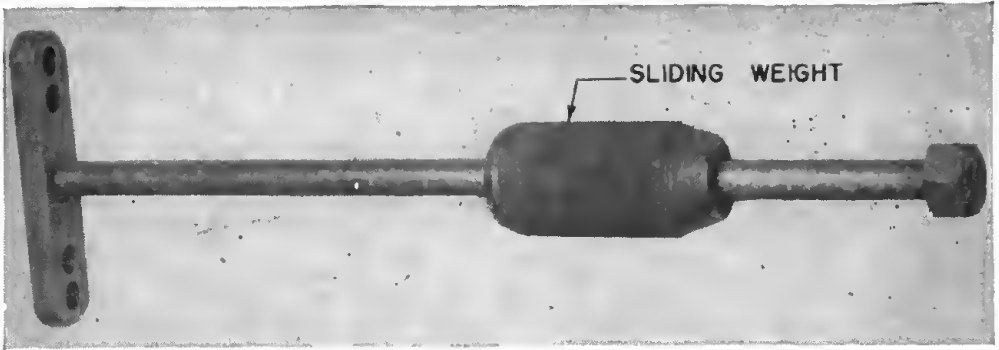
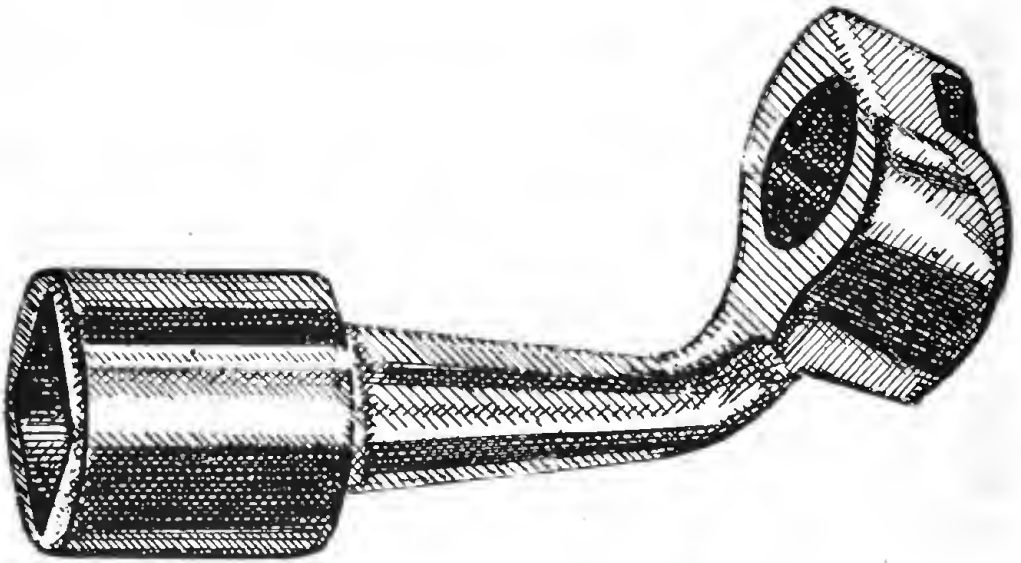

Figure 26. Oil-pump puller.
Figure 27. Cylinder stud nut wrench.
(2) Gears, collars, ball bearings, and similar parts sometimes bind on the shaft. When they do, they may be easily removed by the use of a gear puller. The ends of the L-shaped bars are first placed around the gear to be removed and then the bolt is screwed down until it bears against the shaft. As the bolt is tightened further, the gear is pulled off the shaft. If the gear seems to be stuck so that the gear puller cannot move it, striking the head of the bolt of the gear puller will often jar it loose. When removing ball bearings, the force must be against the inner race only, or damage to the bearing will result.
f. OIL-PUMP PULLER. (1) An oil-pump puller is a shaft with a firmly attached crosshead on one end, a nut on the other, and a loose-fitting piece of metal free to slide on the shaft. It resembles the letter "T" in shape. The crosshead has several holes or a slot on each side. (See fig. 26.)
(2) Oil pumps on many types of airplane engines fit tightly and have no spot at which the mechanic can grip them to remove them. Removal of these pumps is made easy with an oil-pump puller.
(3) Two bolts are inserted through the head of the puller and tightened into two threaded holes in the oil pump. The sliding weight is then used to hammer against the nut on the end of the shaft, pulling the oil pump loose.
g. CYLINDER STUD-NUT WRENCH. A cylinder stud-nut wrench is a socket wrench with one side machined away and an offset drive. It may be either left- or right-handed. (See fig. 27.) Ordinary wrenches cannot be used on cylinder-head nuts because of the inaccessibility of the